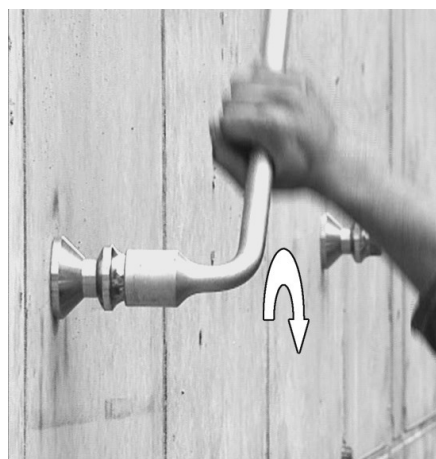

Fig. B1.18
4. Firmly tighten bolt by hand using socket wrench SW 36. (Fig. B1.18)